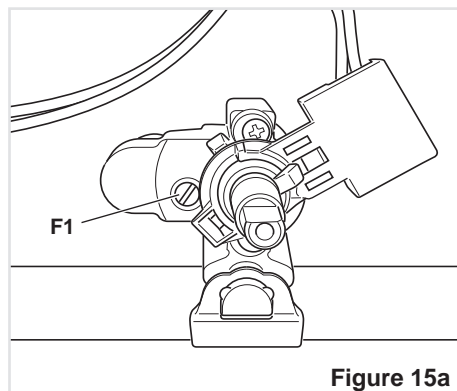

Figure 15a
- Using a screwdriver turn the screw “F1” until adjustment is correct (fig. 15a).